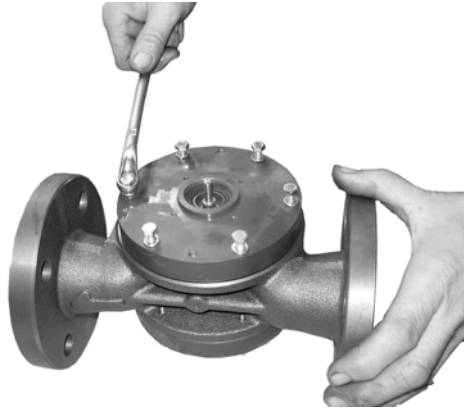

Figure 42
4. Lubricate threads of cover mounting bolts with 'Never Seez'. Install bolts (and lock washers if originally provided). Tighten bolts equally and in turn (Figure 42), in accordance with the torque value table of section 9.4.2.